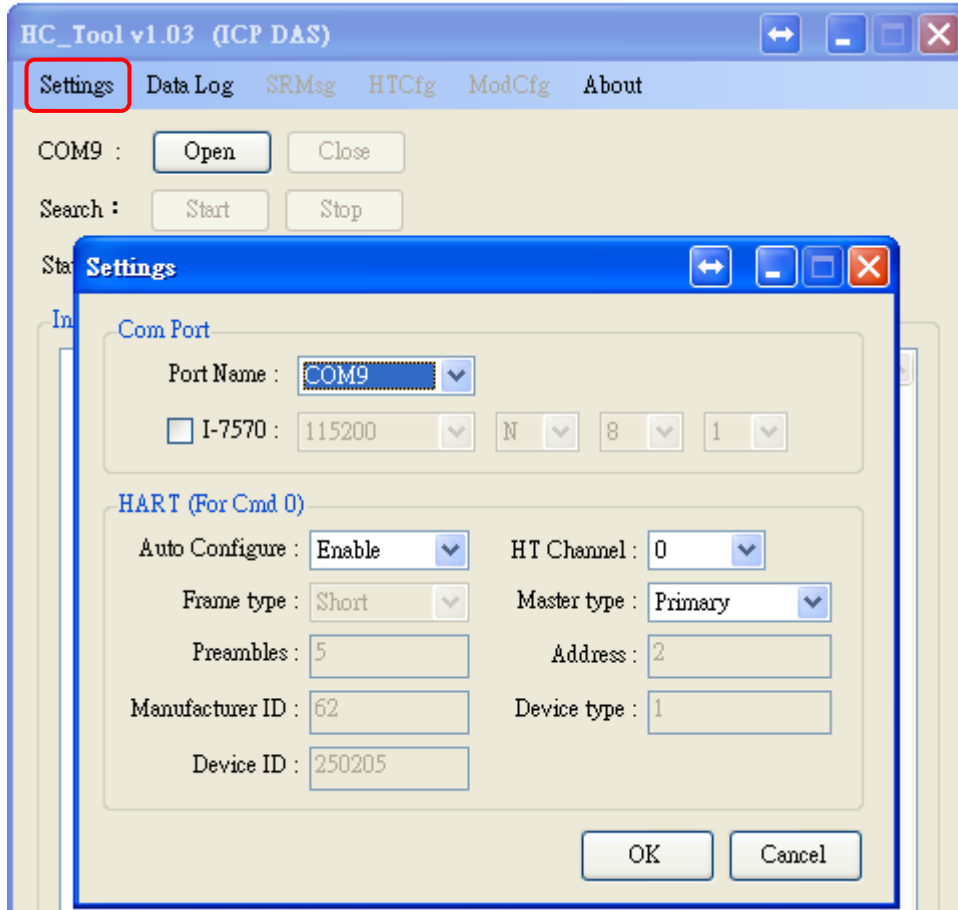

Figure 3-1: "Settings" function of HC_Tool
Step1: Run the "HC_Tool" utility and click the "Settings" item like Figure 3-1 to configure the serial connection and HART command parameters.